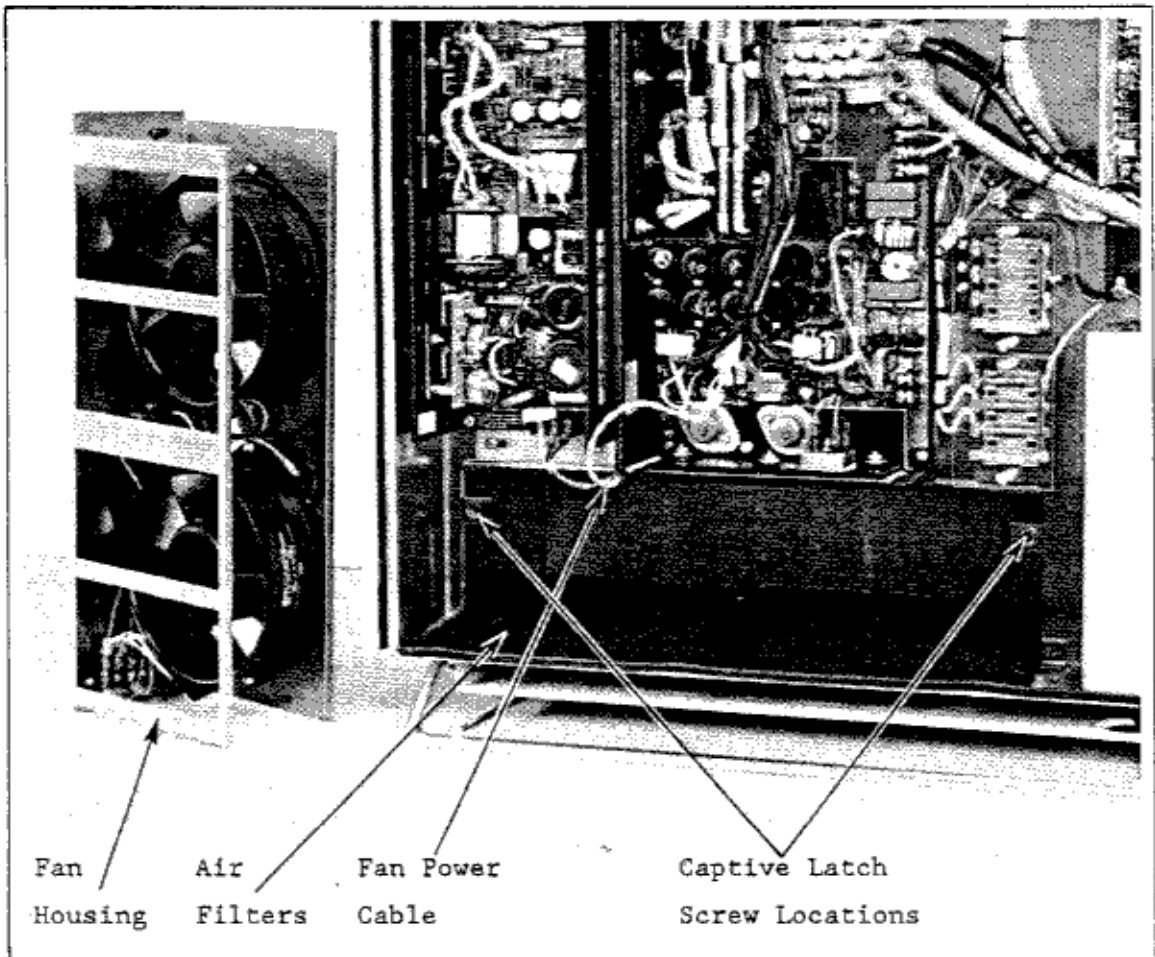

FIGURE 6-2 FANS AND AIR FILTERS
3. Unplug the fan power cable from its connector (see Figure 6-2).